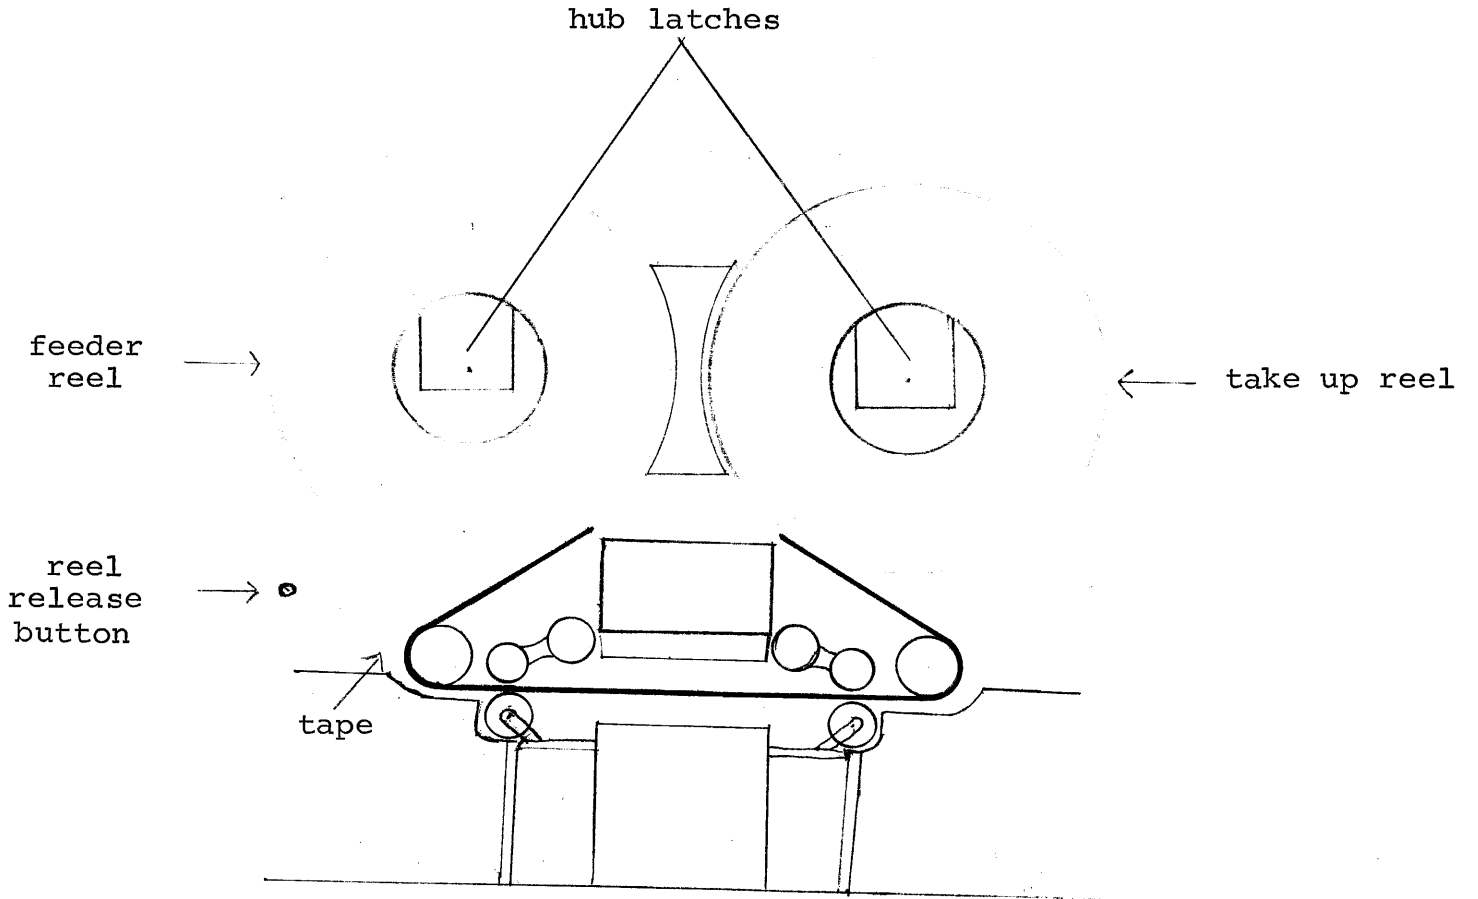

Figure 1. Tape drive
I. Mounting Procedure: The critical factor in mounting tapes is that the tape reel be facing in the right direction. The reel to be mounted goes on the left-hand side of the drive, front side out, so that if you pull on the free end of the tape, the reel moves clockwise. (see Fig. 1 page 5)